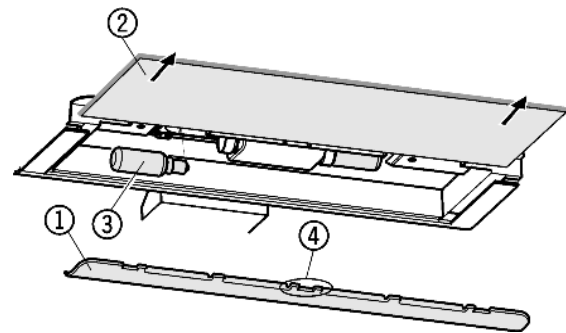

Fig. 18
- ▶ To remove the cover Fig. 18 (1): put your finger behind the cover and disengage it.
- ▶ Pull out the glass shelf Fig. 18 (2).
- ▶ Change the bulb Fig. 18 (3).
- ▶ Attach the cover again, engage it at the right and left and pay attention that the middle hook Fig. 18 (4) grips over the glass shelf.